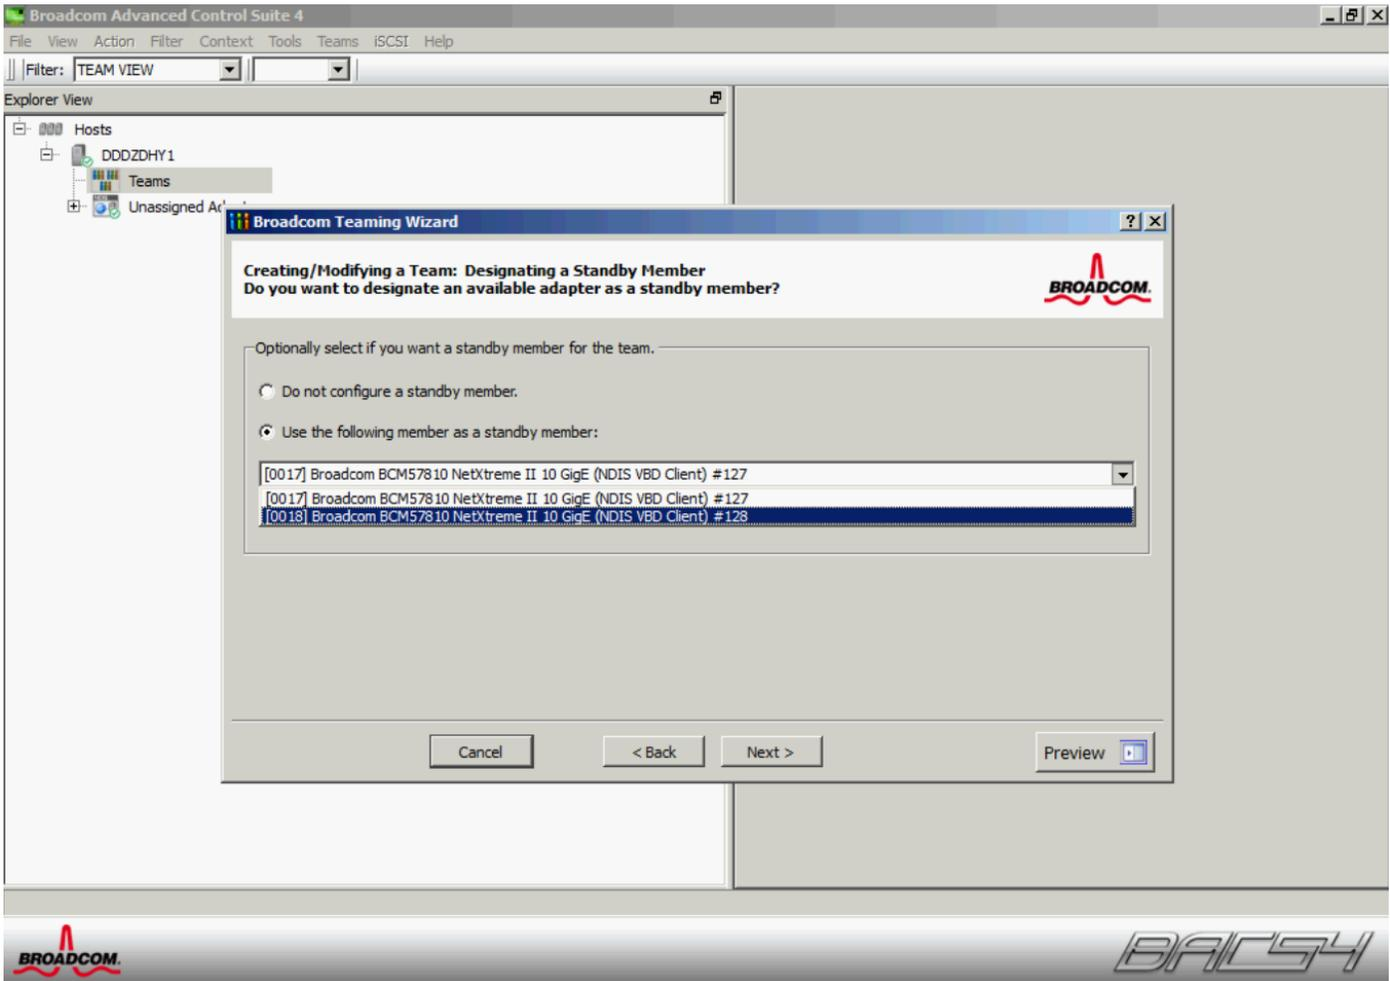

Figure 17 Selecting a 'stand-by' member of the NIC team
11. The NIC team is completed as active-standby (Figure 17), so upon failover, the standby port will become active. Click **Next**.